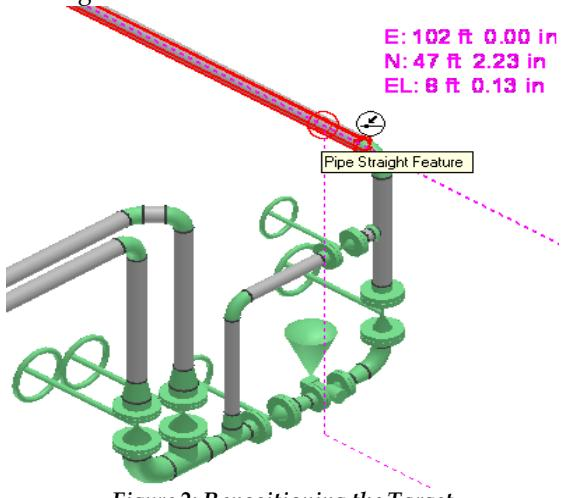

Figure 2: Repositioning the Target
46. Select the **Pipe Straight Feature** of the pipeline **400-P**, as shown in Figure 2, to specify the centerline of the pipe as origin.